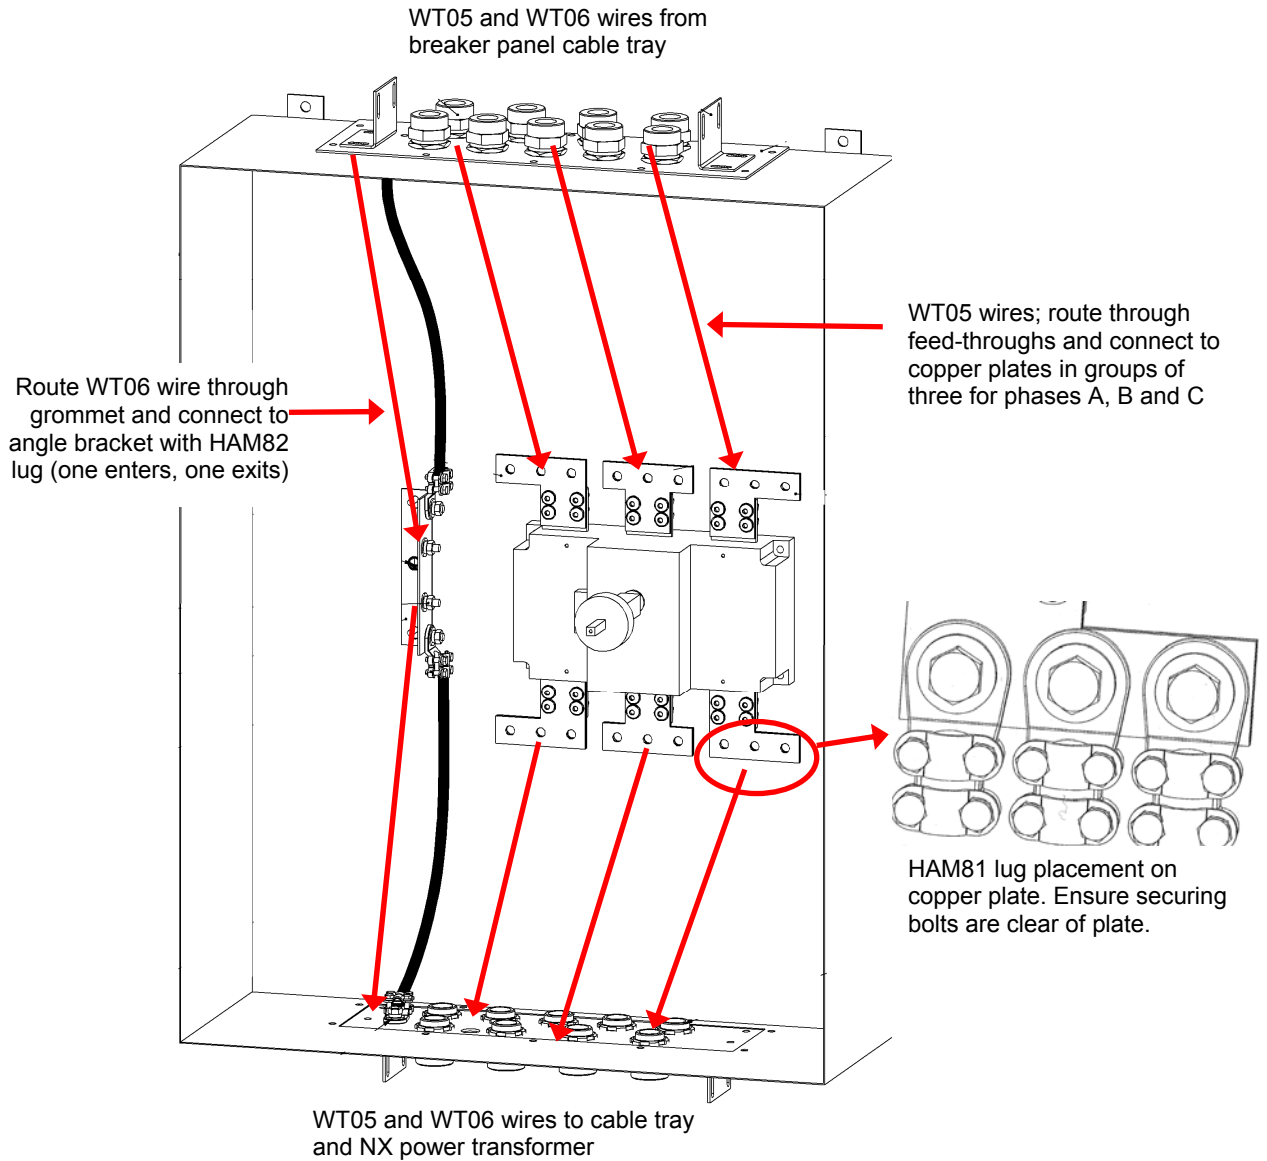

Figure 2-18: Ac Disconnect Switch wiring connection, door removed for clarity
- (g) Route all wires through the top of the ac disconnect switch, noting each phase wire passes through a feed-through strain-relief in the ac disconnect switch (see Figure 2-18). Open the front door of the ac disconnect switch. Ensure there is enough wire to connect to the copper plates (WT05) and angle bracket (ground for WT06) inside the switch box.
- (i) Ensure each phase is marked with colored tape (ground wire with green tape). Connect the end of the WT05 wires to the copper plates provided for each phase (see Figure 2-18). Secure the wire(s) for each phase (three for NX300 systems) to these copper plates [torque to 50 in-lbs (5.6 N-m) for HAM81 lugs]. Repeat this for each of the three phases. Ensure colored phase wires are grouped together. Connect the end of the WT06 ground wire to the angle bracket where a pre-existing internal ground wire is already installed.
- (m) Connect the end of the WT05 wires to the copper plates provided for each phase (see Figure 2-18). Secure the wire(s) for each phase (three for NX300 systems) to these copper plates [torque to 50 in-lbs (5.6 N-m) for HAM81 lugs]. Repeat this for each of the three phases. Ensure colored phase wires are grouped together. Connect the end of the WT06 ground wire to the angle bracket where a pre-existing internal ground wire is already installed.
- (o) Route all wires through the top of the NX300 power transformer's primary side, noting each phase wire passes through a feed-through strain-relief in the top of the transformer's primary side cable tray interface box (see Figure 2-21). Remove the access panel to the power transformer to view the primary terminals. Ensure there is enough wire to connect to the copper plates (WT05) and ground terminal (WT06) inside the transformer cabinet (see Figure 2-18).